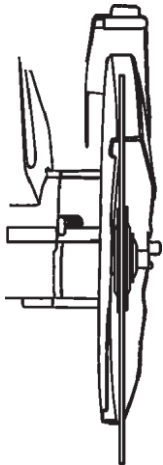

Fig 4
2. Lift the wheel guard fully upward until it will stay in the upright position. (Fig 4)